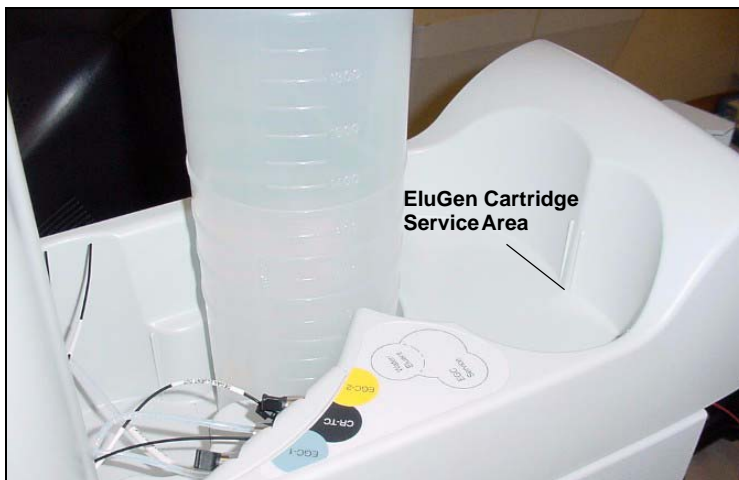
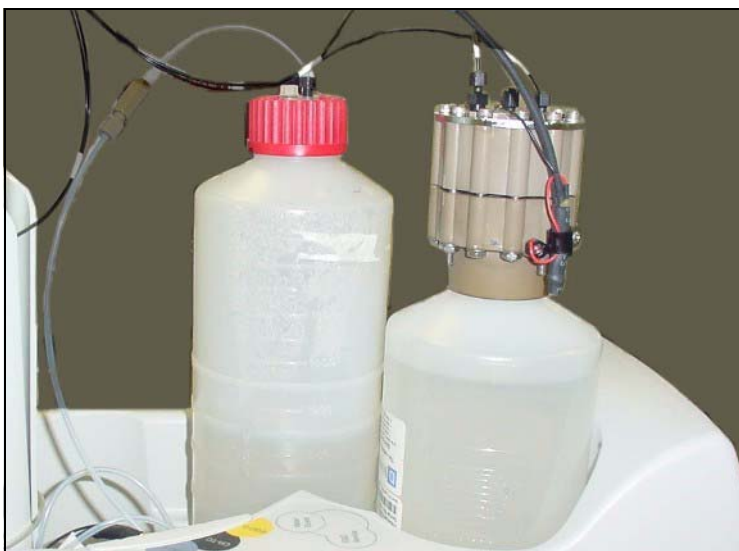

Figure 5-32. EluGen Cartridge Service Area
Figure 5-33. EluGen Cartridge in the Service Area
7. Turn the cartridge upside down and set it in the EluGen cartridge service area on top of the ICS-2000 (see Figure 5-32 and Figure 5-33).